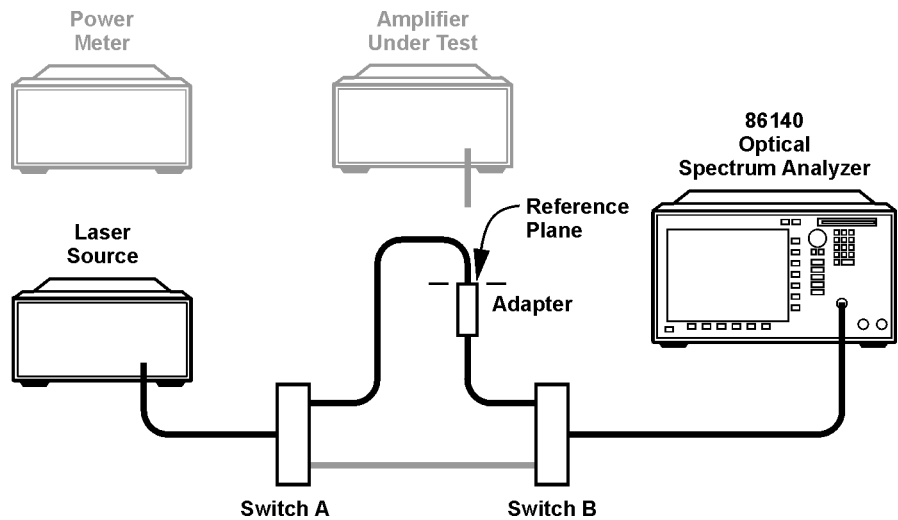

Figure 1-5. Amplifier Path Measurement
- 3 Connect the source output and receiver input fibers through the switches as in Figure 1-5. Set Switch A and Switch B to the amplifier channel position.